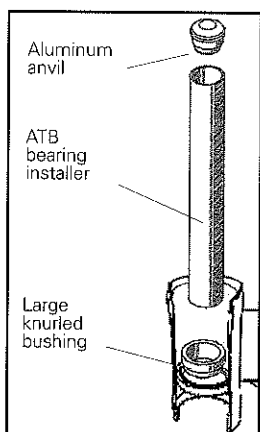

Fig. 37
8. Insert the **large knurled bushing** into the head tube (Fig. 37).